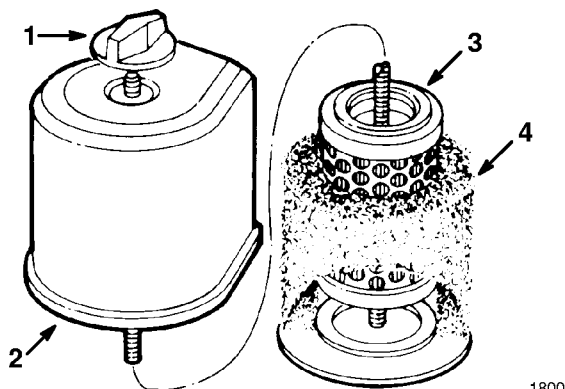

Figure 21
2. Unscrew knob and lift off air cleaner cover (Fig. 21).